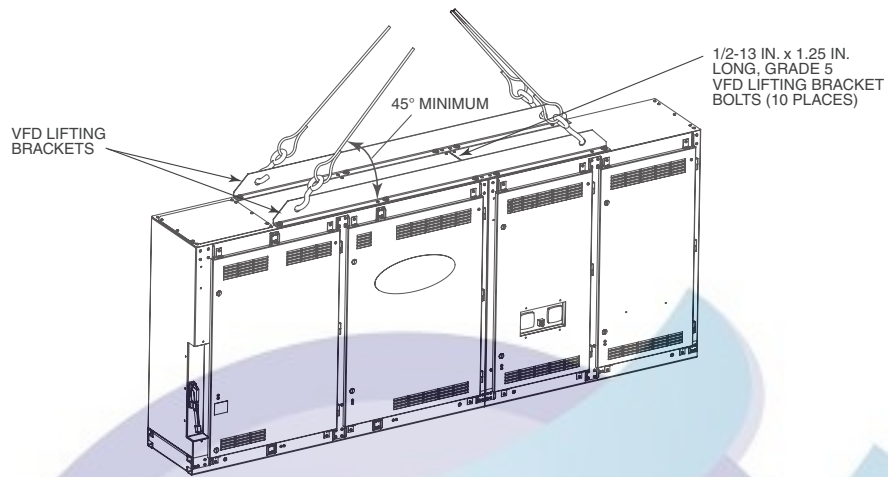
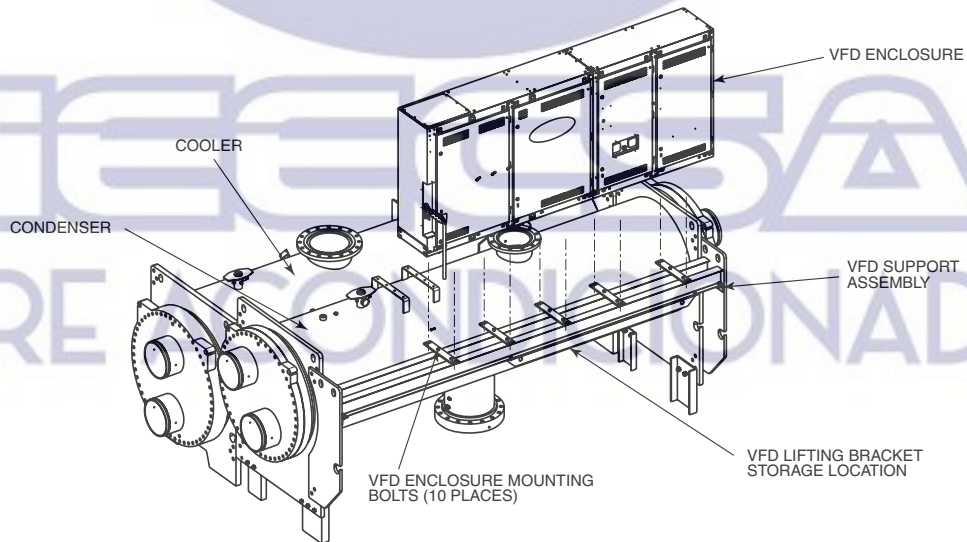

Fig. 27 — 900A or 1200A VFD Enclosure Lifting Points
Fig. 29 — 900A or 1200A VFD Enclosure Installation
2. Using an overhead or portable hoist (minimum 2-ton rated capacity), attach a free-fall chain to the sling secured drive. Take up any slack in the chain. See Fig. 27.
NOTE: If overhead space is limited following reinstallation of the VFD enclosure, the VFD enclosure lifting brackets (Fig. 27) may be removed from the top of the VFD and fastened to the bottom of the VFD support shelf (Fig. 29).